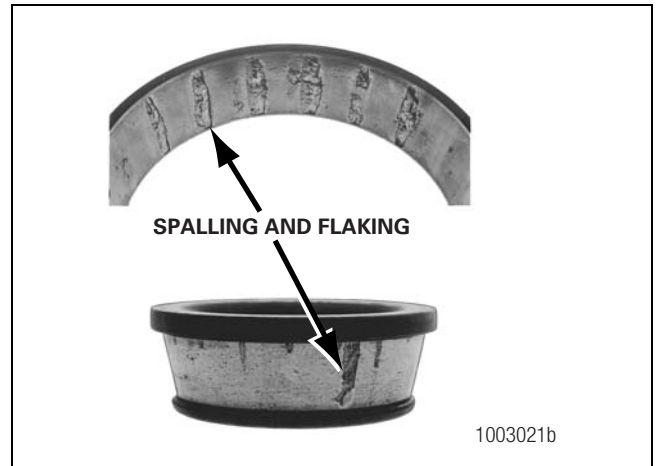

Figure 6.5
- There is damage on the cup and cone inner race surfaces that touch the rollers. Figure 6.5.